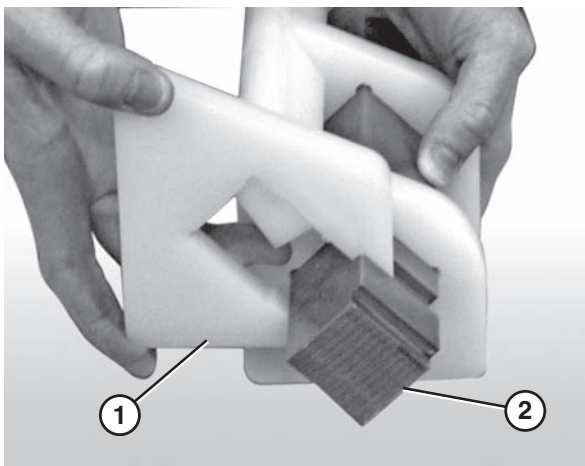

Figure 81
3. Attach the nose bar tracking pucks (Figure 81, item 1) to the nose bar drive post (Figure 81, item 2).